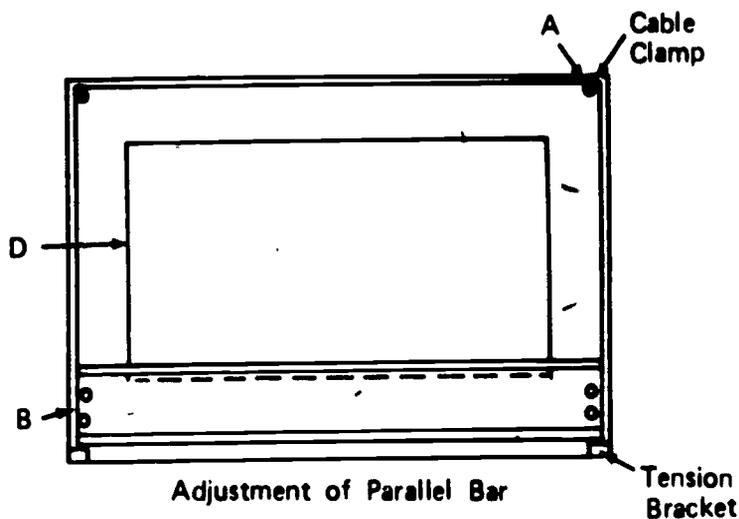

FIGURE 1
- A. Loosen cable clamp as required (Figure 1)